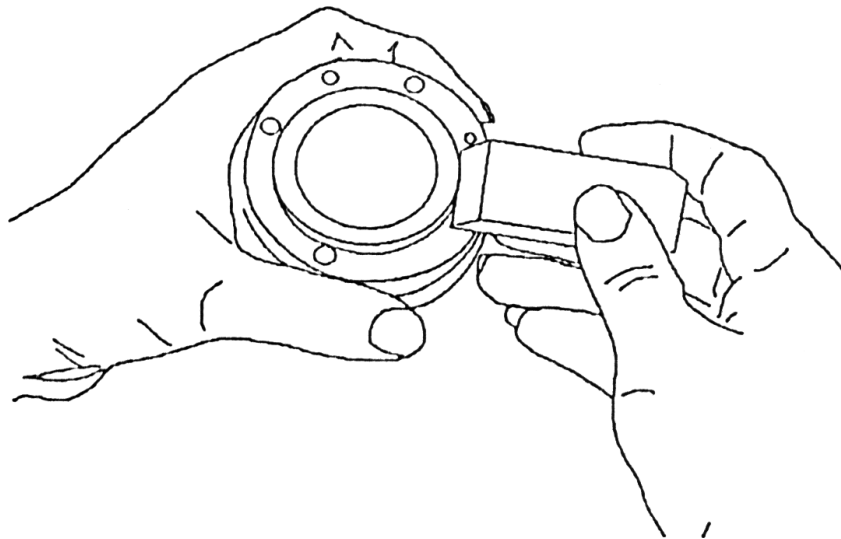

Figure 2-6 Removing old membranes with the scraping tool
7. Remove the old membrane frame from the sample chamber by separating it from the membrane as shown in Figure 2-6.